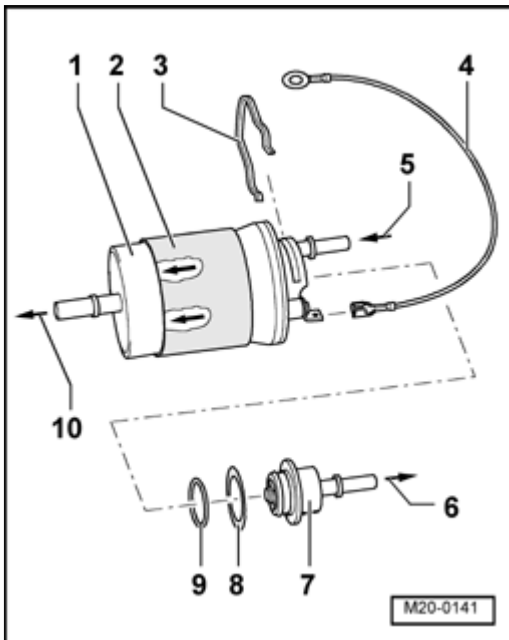

Fig. 209: Removing And Installing Fuel Pressure Regulator
- Removing and installing fuel pressure regulator. See **Fig. 209**